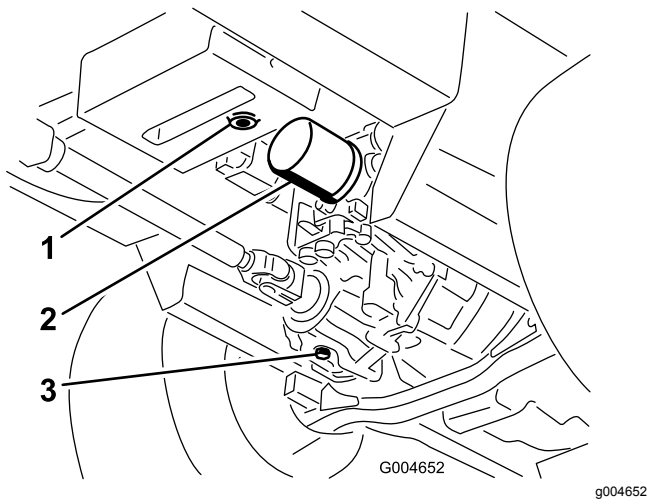

Figure 80
3. Place a large pan under the hydraulic reservoir and transmission case and remove the plugs, draining all of the hydraulic fluid (Figure 80).
4. Clean the area around the hydraulic fluid filter and remove the filter (Figure 80).